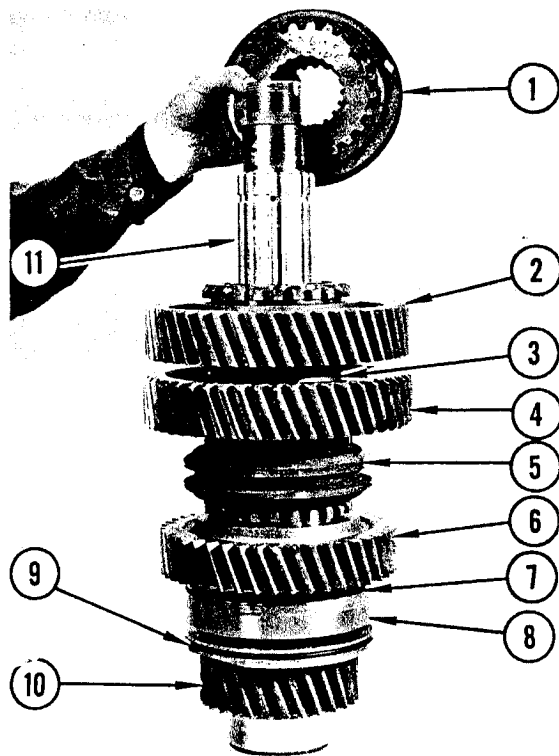

FIGURE 83. LOWERSHAFT DISASSEMBLY
Refer to Figure 83. Remove shifter gear assembly (1). When removing this assembly, note that one side of the shifter gear is marked "Engine Side". When reinstalling the assembly, make certain this marked side is away from the threaded end of lower shaft.
Refer to Figure 83 and reverse the nu-